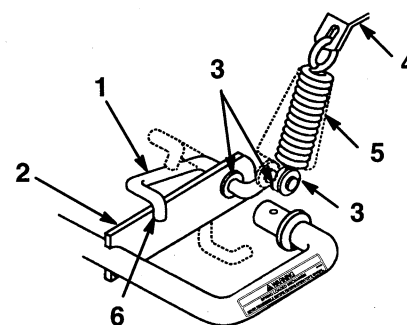

Figure 21
8. Unhook handle from lift arm and rotate down, to relieve spring tension (Fig. 21). Unhook lift assist spring from between welded washers on rod.
9. Slide rod handle out of hole in tractor lift arm (Fig. 21).
10. Unhook lift assist spring from slot in mounting bracket under left fender (Fig. 21).